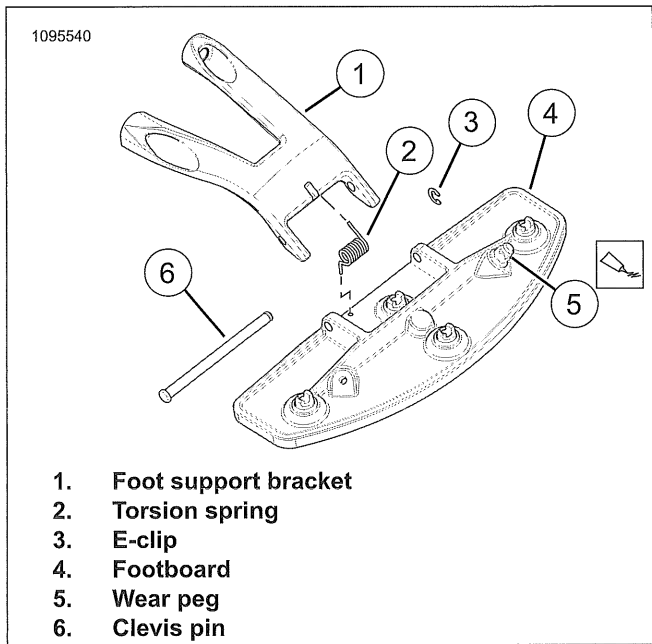

Figure 3-138. Right Side Footboard (Typical)
1. See Figure 3-138. Remove wear peg (5), if equipped.
1. See Figure 3-138. Install footboard.
- a. Insert short leg of torsion spring (2) in hole in footboard (4).
- b. Position footboard and torsion spring on foot support bracket (1).